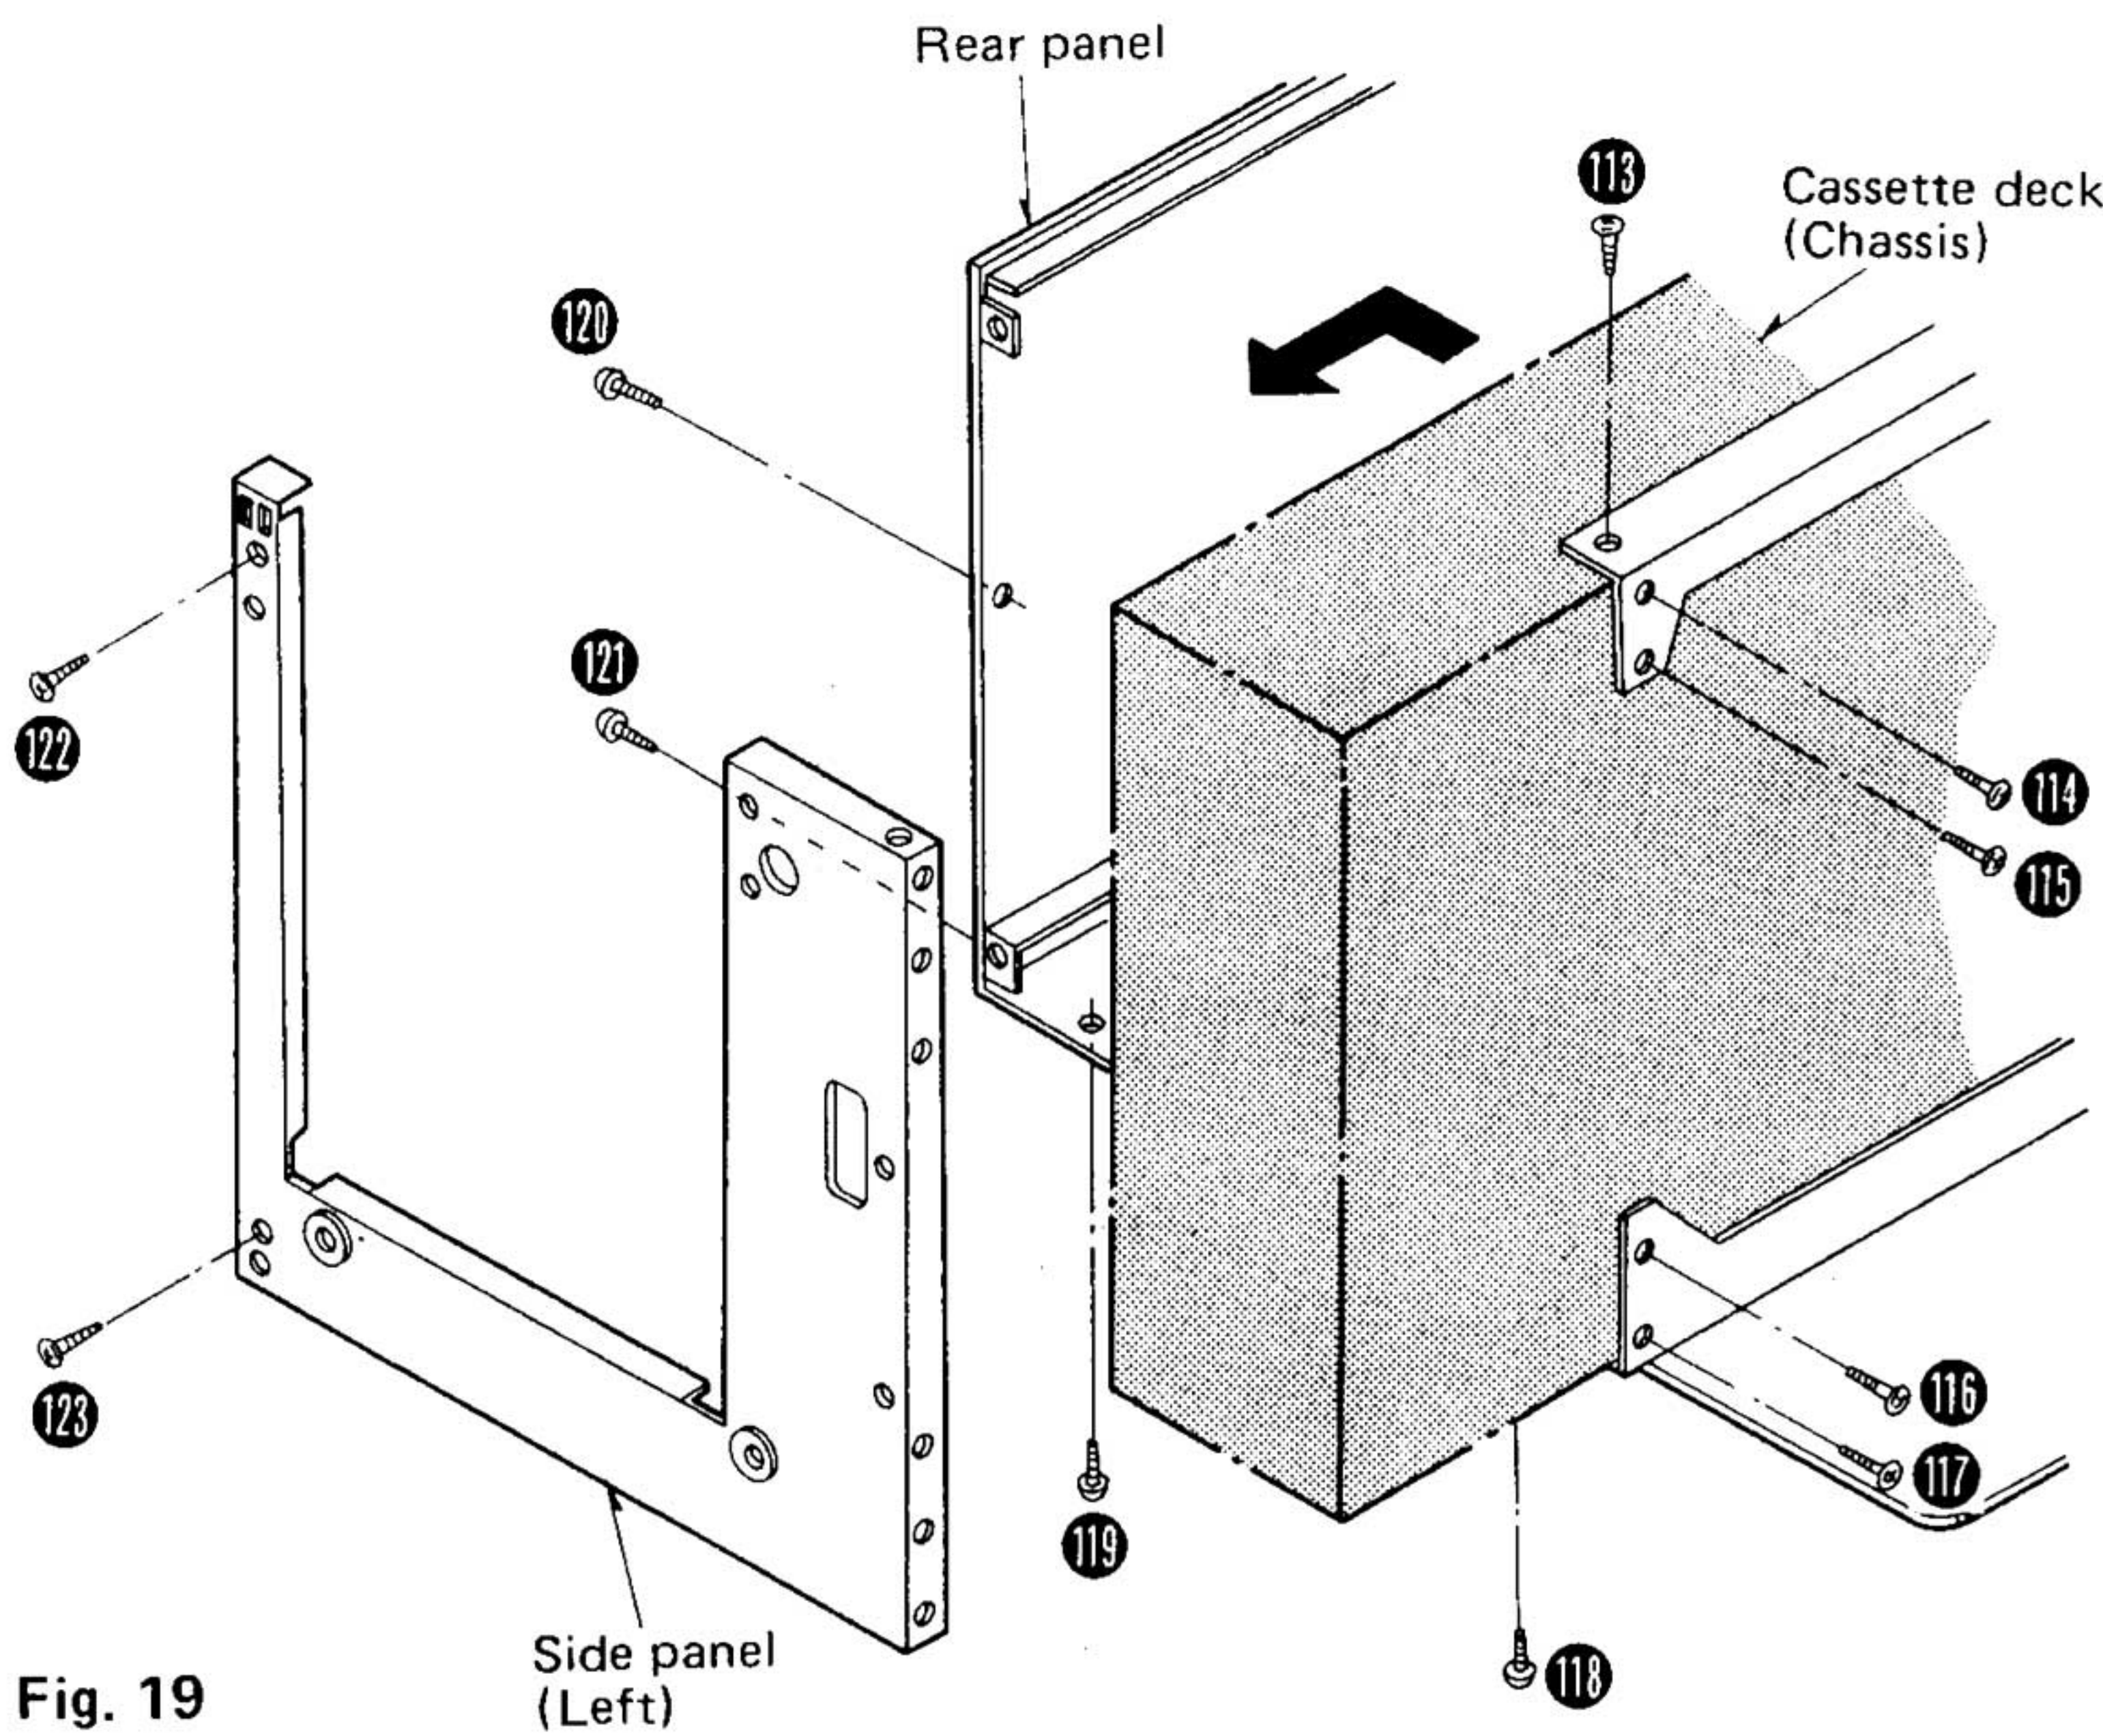
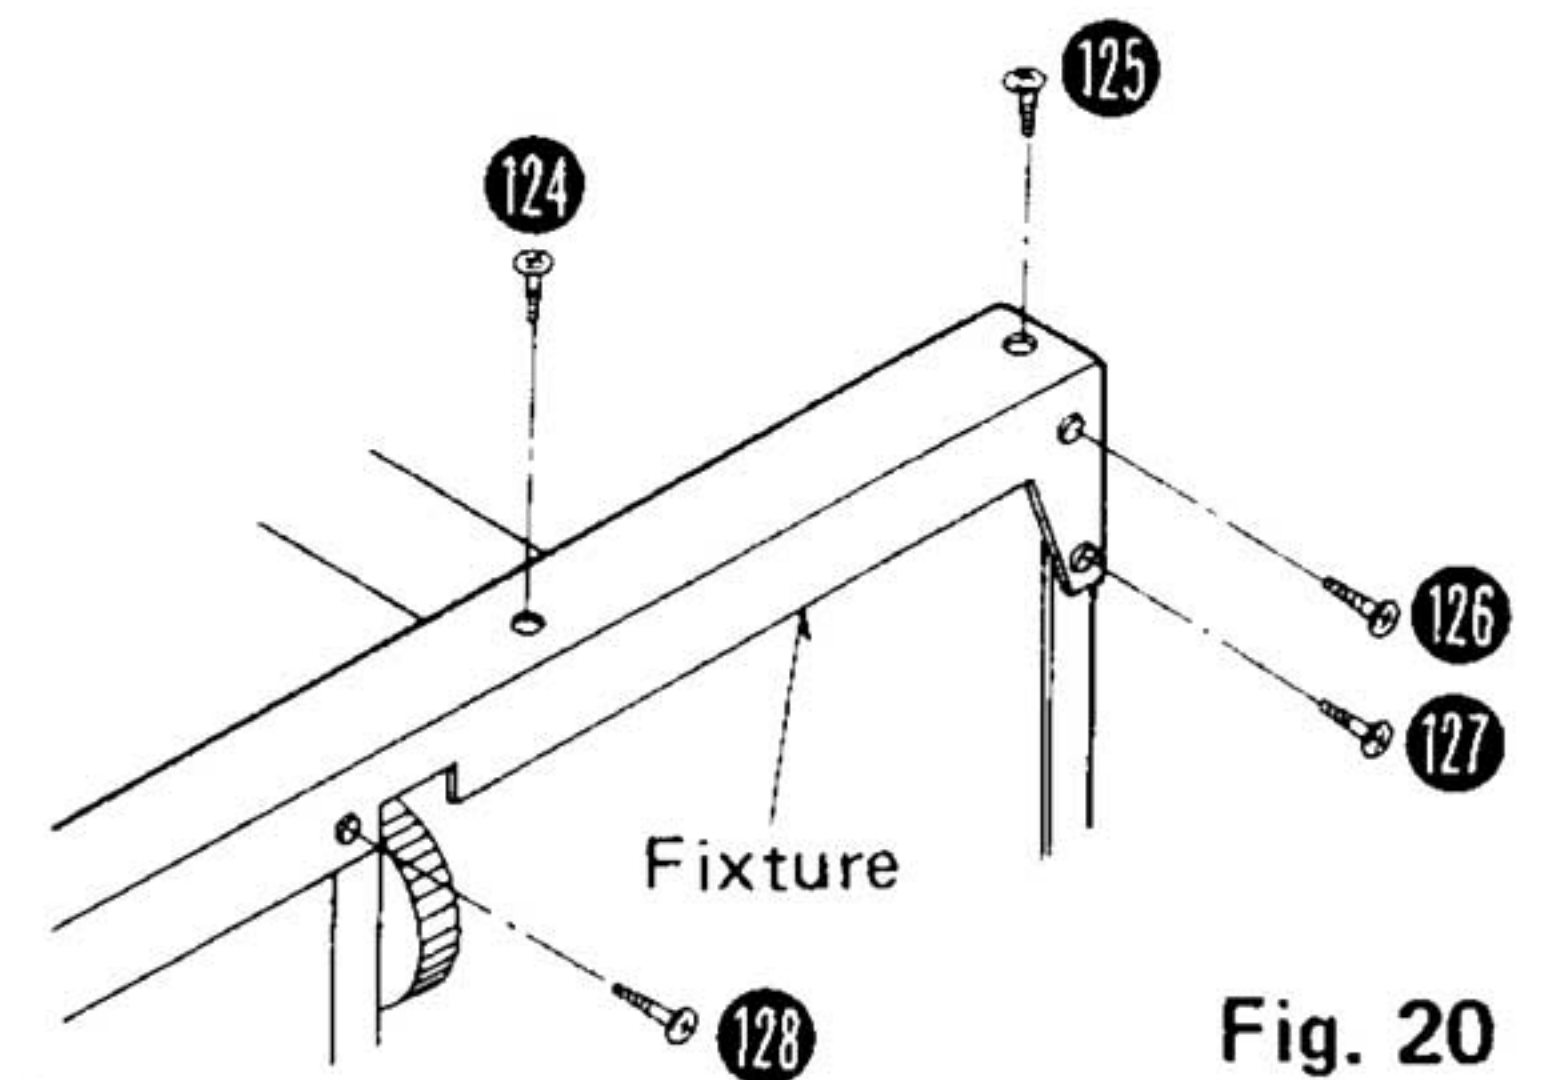

Fig. 19
Fig. 20
7. Remove the 11 setscrews (Fig. 19 : 113 ~ 123 ) of the side panel (left) and the 5 setscrews (Fig. 20 : 124 ~ 128 ) of the fixture front top).
8. Draw out the cassette deck in the direction of the arrow as in Fig. 19.